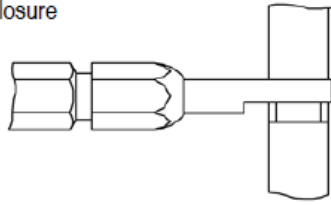

Figure 9a
3. Using the appropriate plug gage, hold the gage in alignment with die closure and carefully insert (*without forcing*) the GO member. **The GO member must pass completely through the die closure as shown in Figure 9a.**